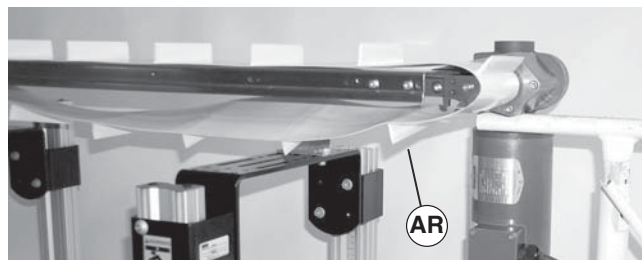

Figure 26
8. Remove conveyor belt (Figure 26, item AR).